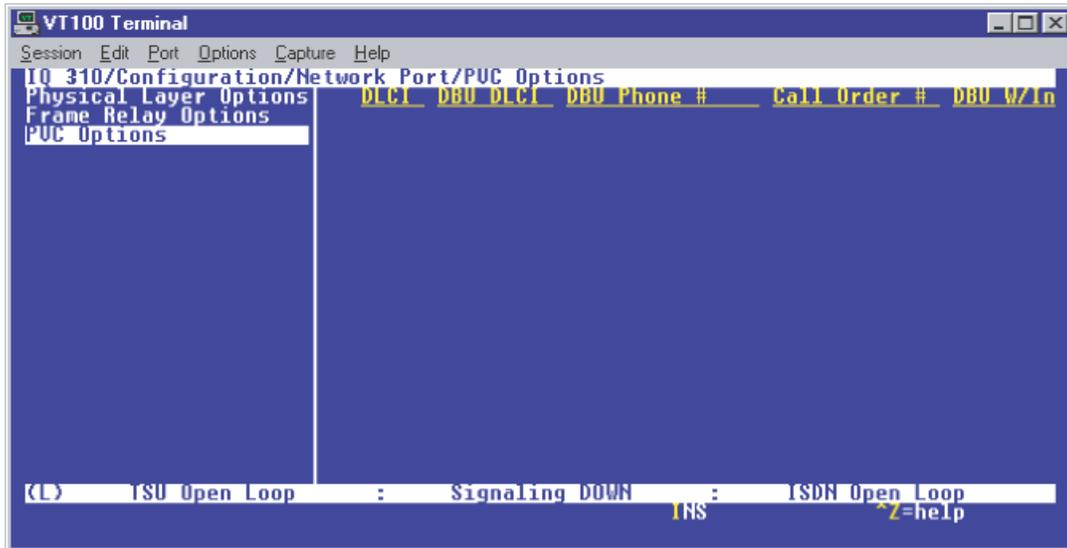

Figure 17. PVC Options Menu
- Press the right arrow once and then down arrow until **PVC OPTIONS** is selected. Press **<ENTER>** and the screen shown in Figure 17 is shown.
1. From the **CONFIGURE PVC OPTIONS** screen shown in Figure 17, use the right arrow to select **DLCI**; then press **<ENTER>**. Type in 20 and press **<ENTER>**. This is the DLCI that Atlanta uses for communication with Huntsville.